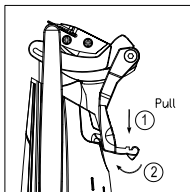

Fig. 2
2. Flip the length guide to the back of the unit, gently pull down and secure under the latch to lock into place (Fig. 2).